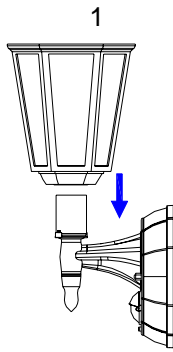

FIGURE 3
- (1) Fit the lantern compartment onto the base. (FIGURE 3)